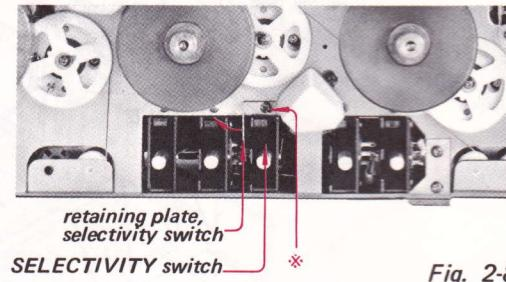

Fig. 2-8
2. Loosen the screw marked \* in Fig. 2-8 and remove the selectivity switch connector from the selectivity switch retaining plate.